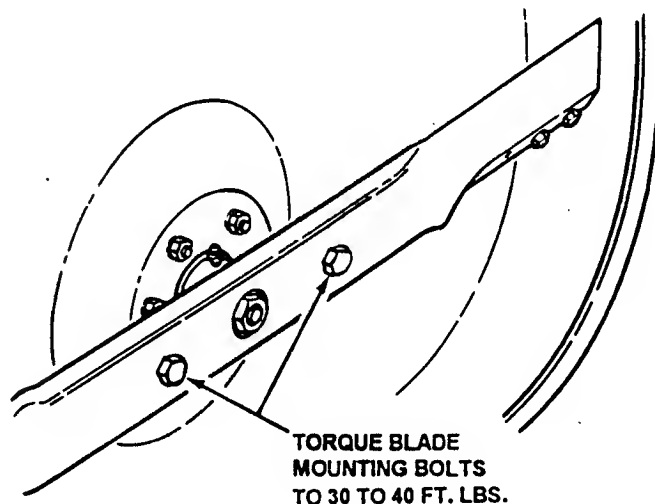

FIGURE 3.2
5. Check torque of blade mounting bolts. As necessary, torque to 30 to 40 ft. lbs. See Figure 3.2.